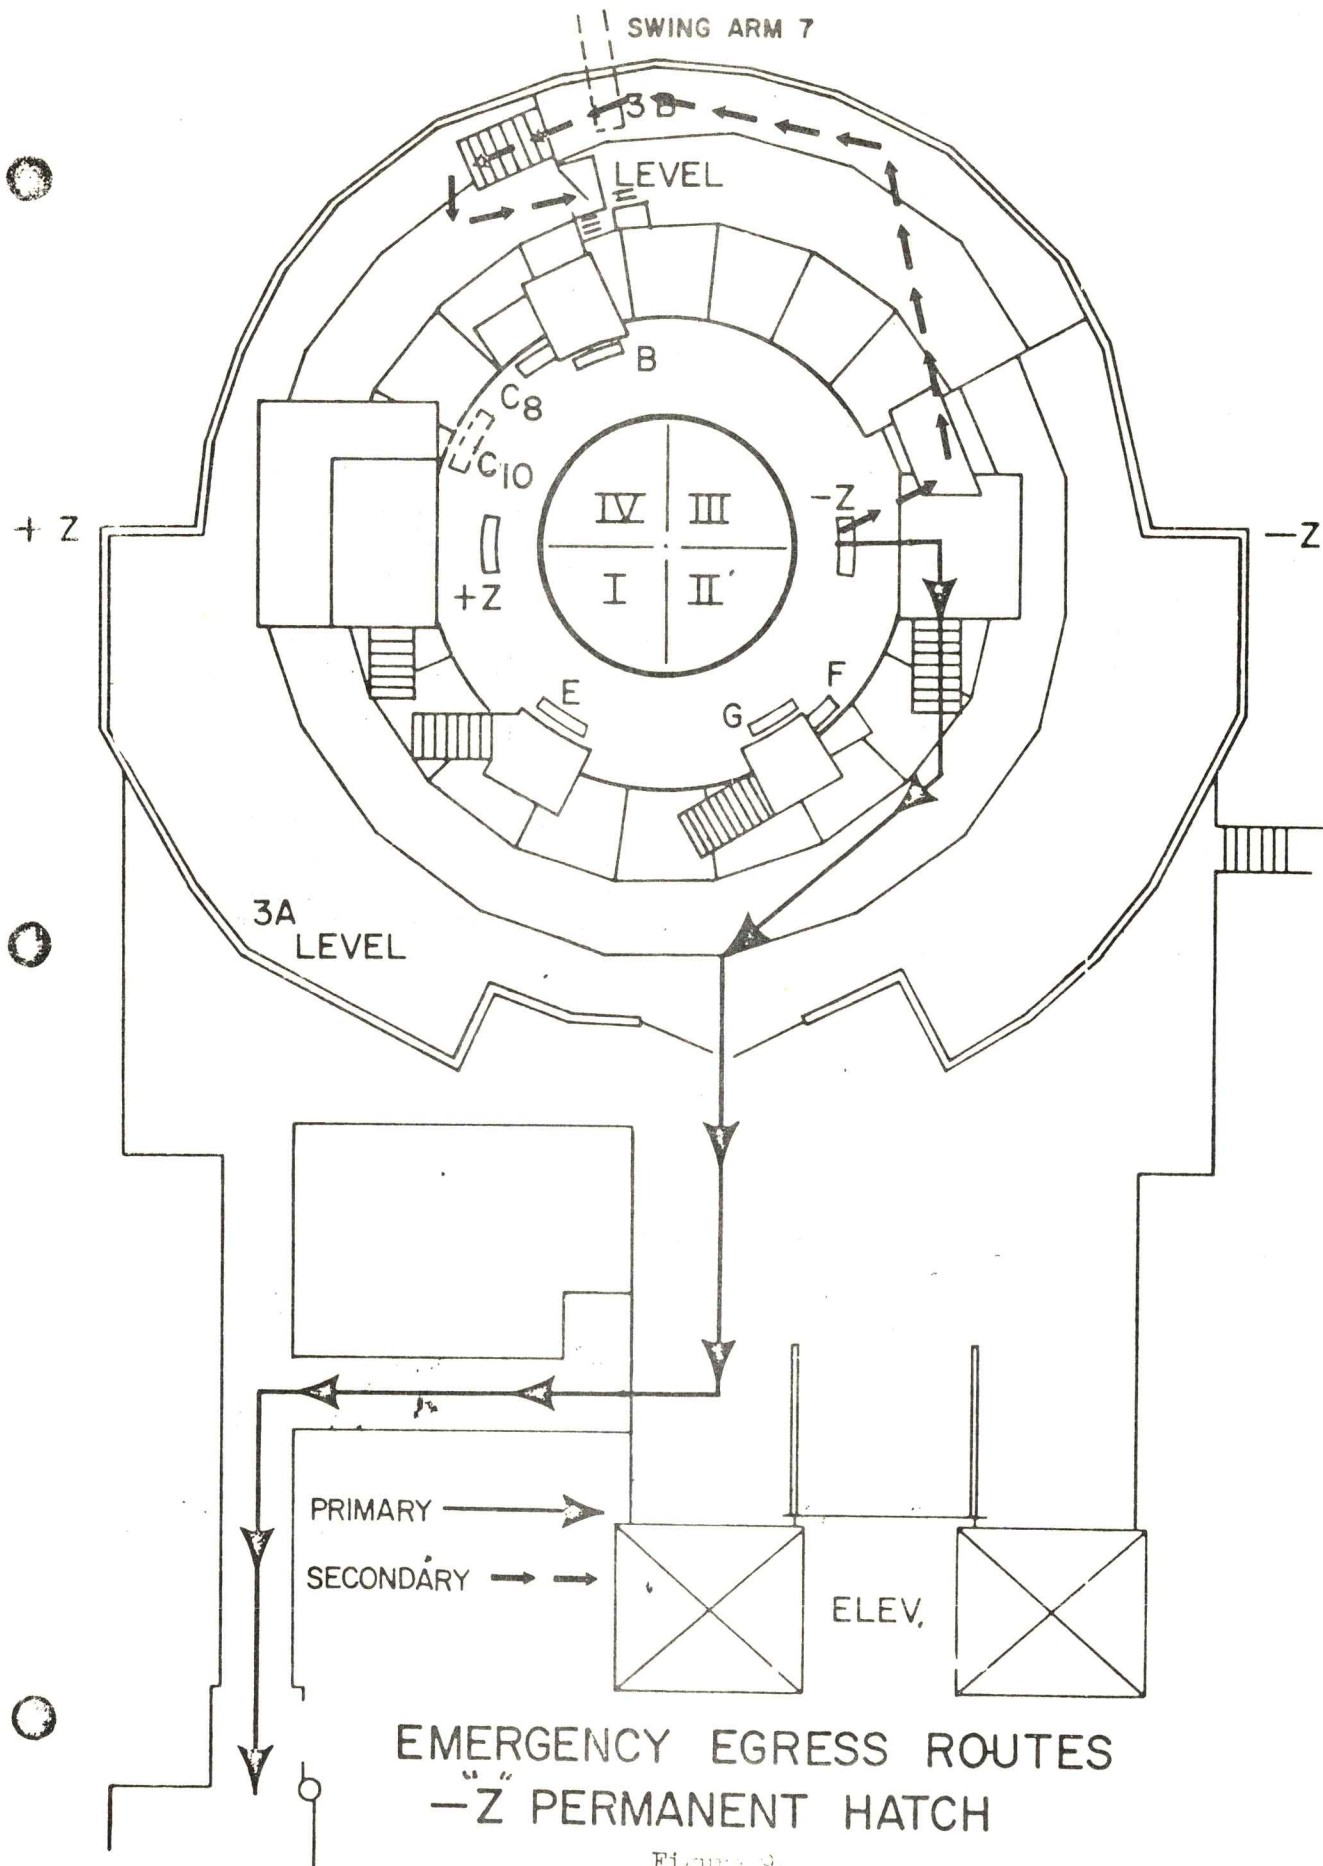

Figure 9.
1. The primary emergency egress routes are depicted on Figures 9. through 17. with large black arrows indicating the desired routes to use in the event of an emergency.
A support platform at the -Z of the SLA at an elevation of approximately 279 feet provides normal access through the -Z permanent hatch. This permits access to the inside of the SLA at the 603 platform level for servicing the exterior LM. (See Figure 9.) Once inside the SLA, personnel may progress to all SLA and I.U. platform levels via vertical ladders. The only two normal accesses to the interior of the SLA are through the I.U. permanent hatch and the -Z permanent hatch. A drawbridge extends between support platforms at -Z permanent hatch and the 3B level platform.